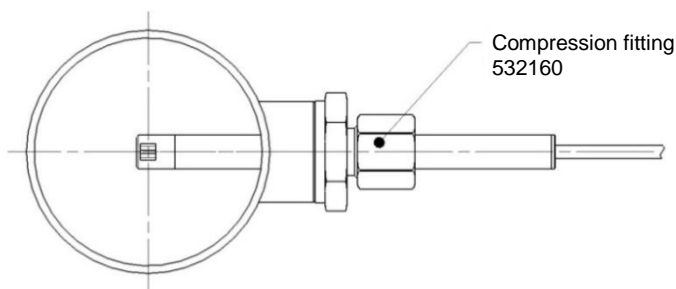

Figure 3-2
- In inhomogeneous, laminar flow fields (for example a quasi-parabolic speed profile in a tube), the sensor tip should be positioned at the place at which the highest speed occurs (adjustment of the immersion depth; see Figure 3-2) since this point has normally the largest distance to interfering elements such as boundary surfaces.
Installation in a flow guiding tube is carried out by means of a compression fitting (532160, see Figure 3-2):